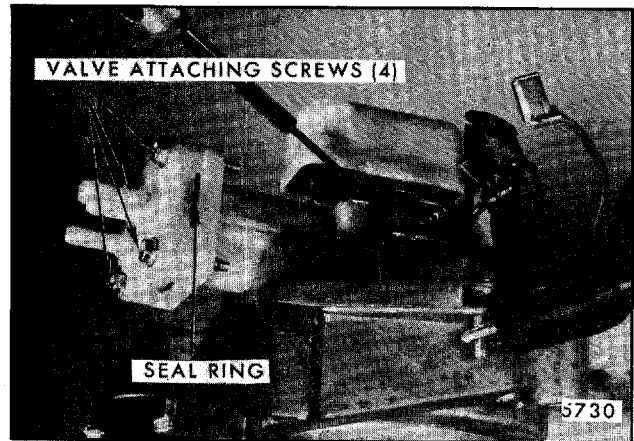

Fig. 2-138-Valve Assembly
- a. Note position of valve assembly pipes relative to the pump housing for reassembly, then remove the four screws that attach valve assembly to housing (Fig. 2-138).